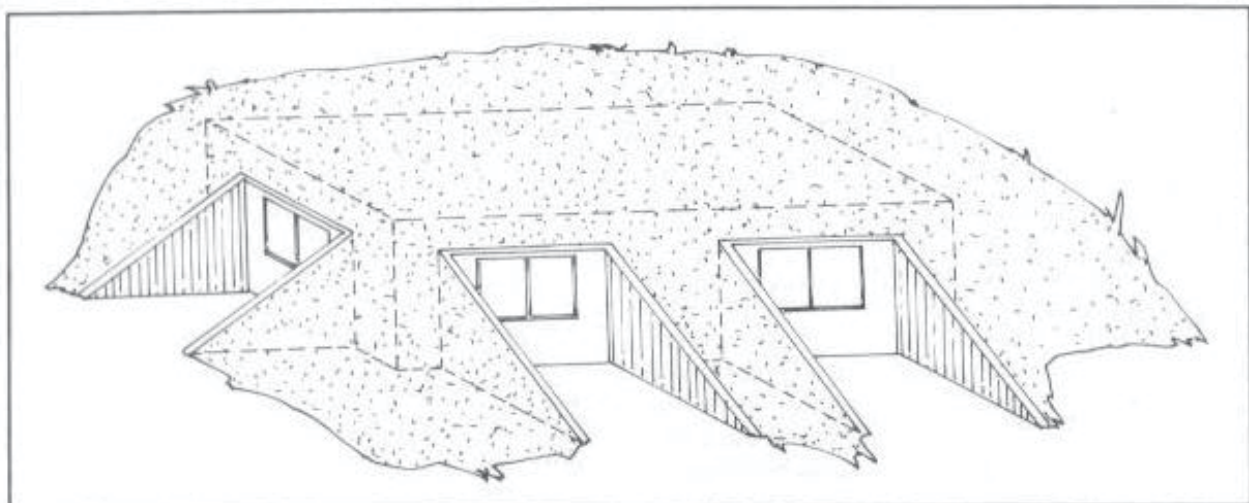

Fig. 5-2. Cutting openings for numerous windows soon defeats the logic of underground homes.
- Provide a window penetration through the earth, thus defeating the purpose of an underground house. See Fig. 5-2.